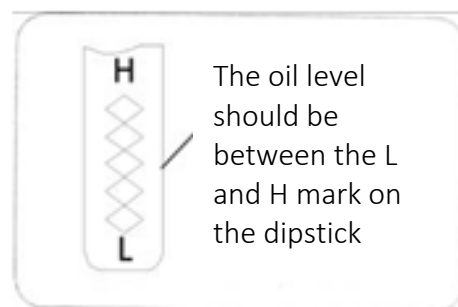

Fig. 41
4. Unscrew the oil plug with the dipstick and read the oil level on the stick. If the oil level is below the "L" (LOW) mark, slowly add oil to reach the "H" (HIGH) mark, see Figure 41.